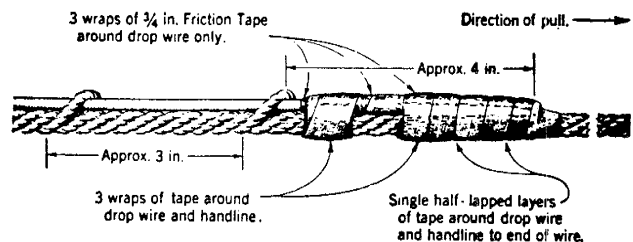

Fig. 4 — Fastening Handline to Prevent Snagging
Note: If the handline has been placed over a drive hook or other support on which the square knot would snag, fasten the wire to the handline as shown in Fig. 4.
- (4) Set the brake of the reel so that it will hold the tension in the wire span after it is transferred to the reel.
- (5) With the drop wire paying off from the bottom of the reel, pass the end of the wire over the first building attachment and through the temporary guide loop at this attachment.
- (6) Place a temporary drop wire clamp on the wire to be replaced about one foot out in the span. Seat the clamp firmly on the wire. Tape the front end of the temporary clamp so that it will not foul on the strand, guard arm, or crossarm.
- Note:** If the drop wire is to be pulled over a drive hook or other support on which the temporary clamp would snag, fasten the end of the wire from the drop wire reel securely to the wire in the span in a manner such as illustrated in Fig. 4.
- (7) Tie the end of the wire from the drop wire reel securely to the tail of the temporary drop wire clamp.
- (8) Reel up all slack between the drop wire reel and the temporary drop wire clamp so that tension is removed from the original drop wire clamp.
- (9) Go to the other end of the drop wire span and lash one end of the handline to the base of the pole or, if at a span clamp, to the lower rungs of the ladder or to a nearby pole or tree.
- (10) Loop the other end of the handline under the body belt as described in 2.05 and climb the pole or ladder.
- (11) Disconnect the drop wire from the terminal and remove the free end from the wiring rings on the pole.
- (12) Place a temporary drop wire clamp on the free end of the drop wire (not in the span) to be replaced. This arrangement eliminates the necessity of pulling the temporary drop wire clamp over the strand, guard arm, drive hook, or crossarm on which it may become fouled.
- (13) Tie a loop of the handline to the tail of the temporary drop wire clamp so that the lashed end of the handline is sufficiently taut to remove tension from the original drop wire clamp.
- (14) Remove the original drop wire clamp from the drop wire at the pole or span clamp, thereby leaving the wire supported by means of the temporary drop wire clamp and the lashed handline.
- (15) Return to building, check to ensure that tension has been removed from the original drop wire clamp, and then cut the wire to be replaced behind the temporary drop wire clamp with pliers.
- (16) Return to the pole or span clamp location, untie the handline and, while standing on the ground, pull the new wire into the span, observing the drop wire as it feeds from the drop wire reel to make sure that the brake maintains sufficient tension to prevent the wire from sagging an excessive amount.